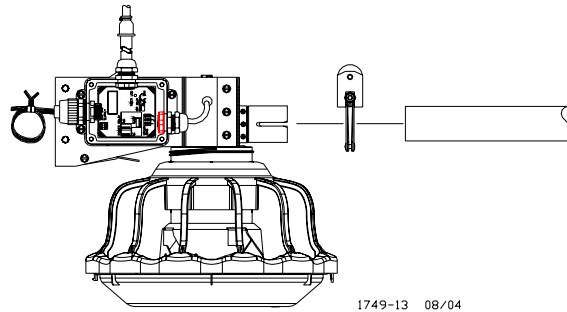

**Figure 37. Cable Lock Threading**
6. Install Adjustment Leveler within 6" [152 mm] of feeder line. **Figure 37** shows the proper cable routing around the Adjustment Leveler.
Finally, tighten the Tube Clamps on the feeder tubes. Clamp the joints securely, but do not crush the tubes. Re-adjust all Adjustment Levelers as needed and trim off excess cable as shown in **Figure 37**.